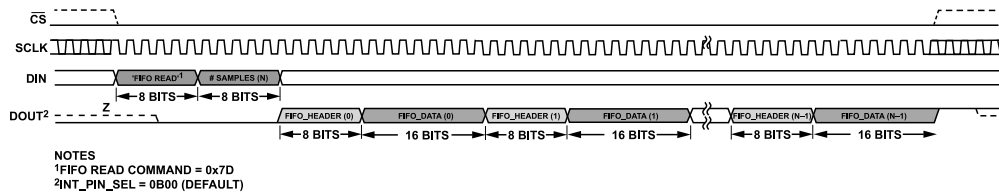
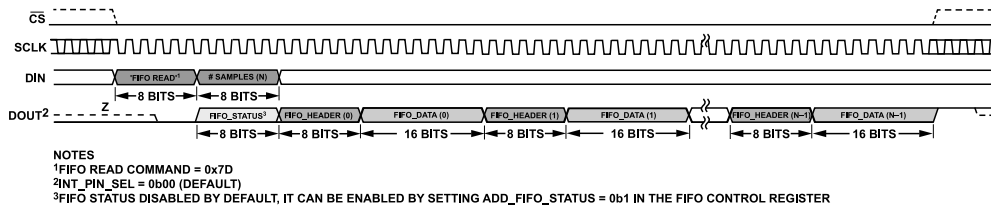

Figure 103. FIFO Readback Default (FIFO_STATUS Append Off and FIFO_HEADER Append On)
Figure 104. FIFO Readback (FIFO_STATUS Append On and FIFO_HEADER Append On)
By default, the FIFO_HEADER is enabled and the FIFO_STATUS append is disabled. So, the FIFO readback diagram looks like Figure 103. If the FIFO_STATUS append is enabled, the FIFO readback diagram looks like Figure 104.
Enable the FIFO_STATUS register content (see Table 69) to be added and read before the FIFO_DATA and during the # samples (N) byte (see Figure 104), by setting ADD_FIFO_STATUS bit to 1 in the FIFO_CONTROL register (see Table 67). This way, detect an error earlier and abort the FIFO_DATA readback.